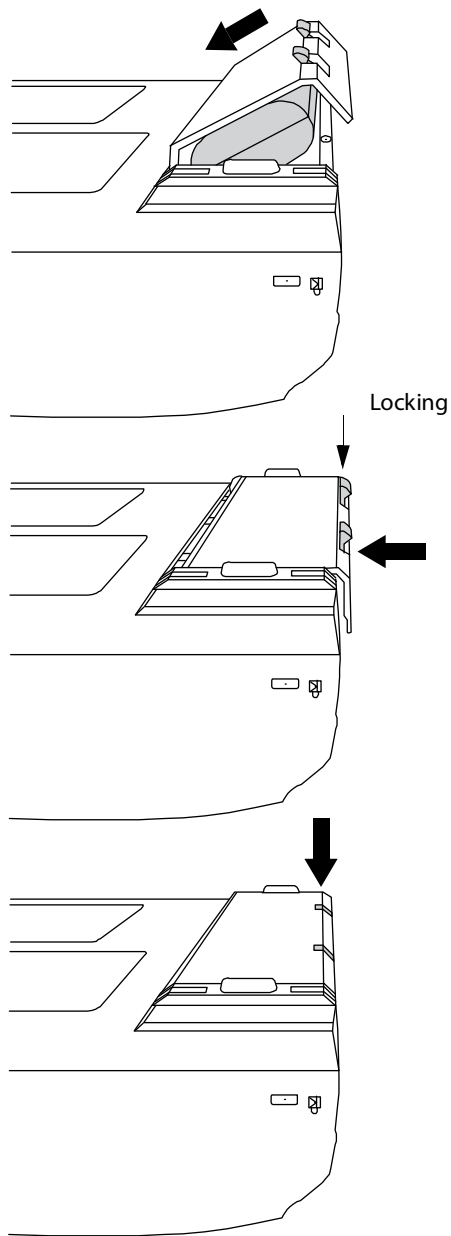

Figure 2-3 Install the battery
- 3 Place the battery into the battery compartment, at a slight angle. See **Figure 2-3** on page 2-4.